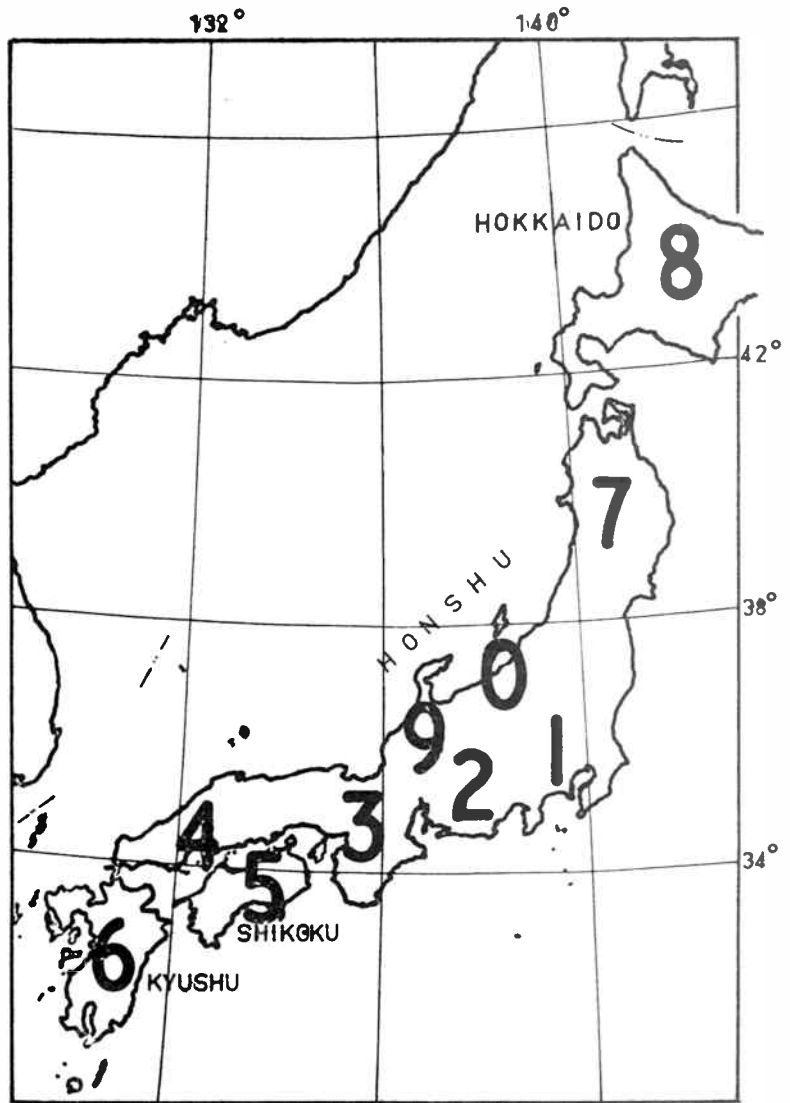

Figure 3. Map of Japan, showing the locations of the areas identified by the callsign prefixes JA0, JA1 – JA9.
centrated mainly on the contacts made with the different areas of Japan (see Figure 3), to study any effects that the latitude of the Japanese transmitter might have on the probability that the 6 m band be open on circuits to a particular Australian city.
1) The 10 areas Japan divides into (see Figure 3) have unequal populations (see Table 2), and presumably unequal numbers of 6 m amateurs. We assumed that the numbers of amateurs in each area, N_i , was proportional to the population of that area, p_i , that is